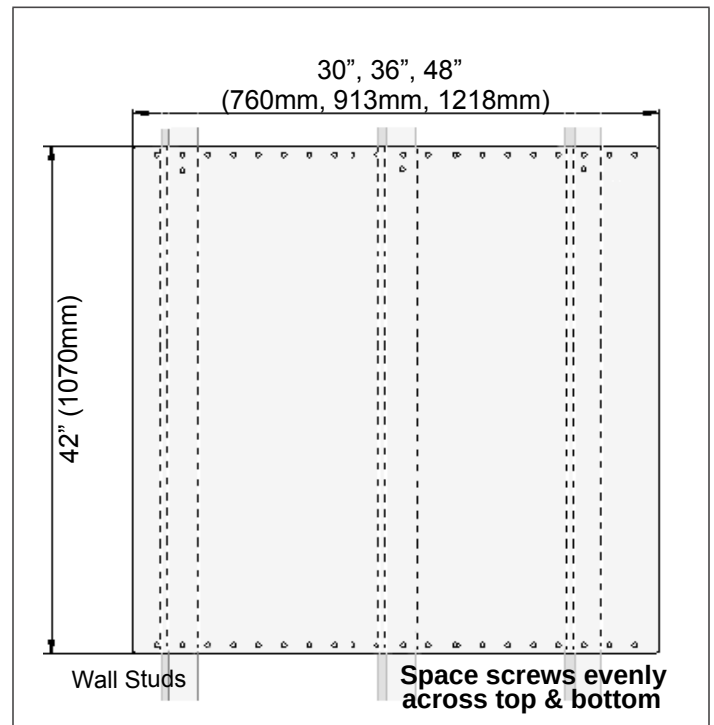

Figure 11: Backsplash Installation
(1) Installation Guide	Pencil
- Per each wall stud, use (2) of the provided screws to secure both the top and bottom of the backsplash (see Figure 11).